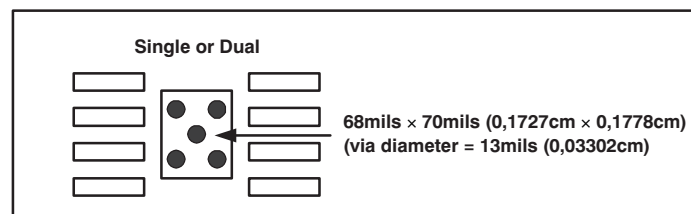

Figure 17. PowerPAD PCB Etch and Via Pattern
2. Prepare the PCB with a top-side etch pattern, as shown in Figure 17. There should be etch for the leads as well as etch for the thermal pad.